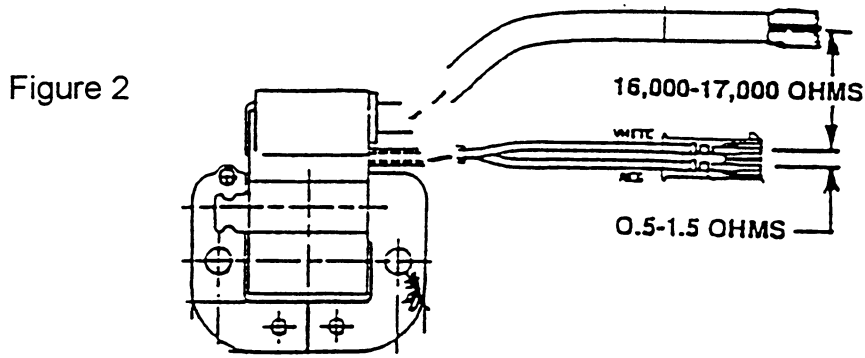

Figure 2
1. Unplug the two halves of the 2-pin connector plug from the Ignition Coil. The red and white wires are the primary coil leads. See Figure 2.